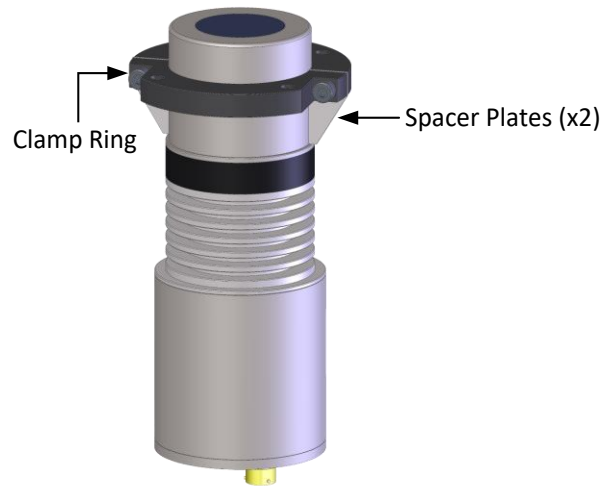

Figure 31: Clamp Ring (Flush Mount)
3. Ensure the Spacer Plates are touching the ridge on the sensor (Figure 31). Tighten the Clamp Ring Screws to lock the Clamp Ring into place